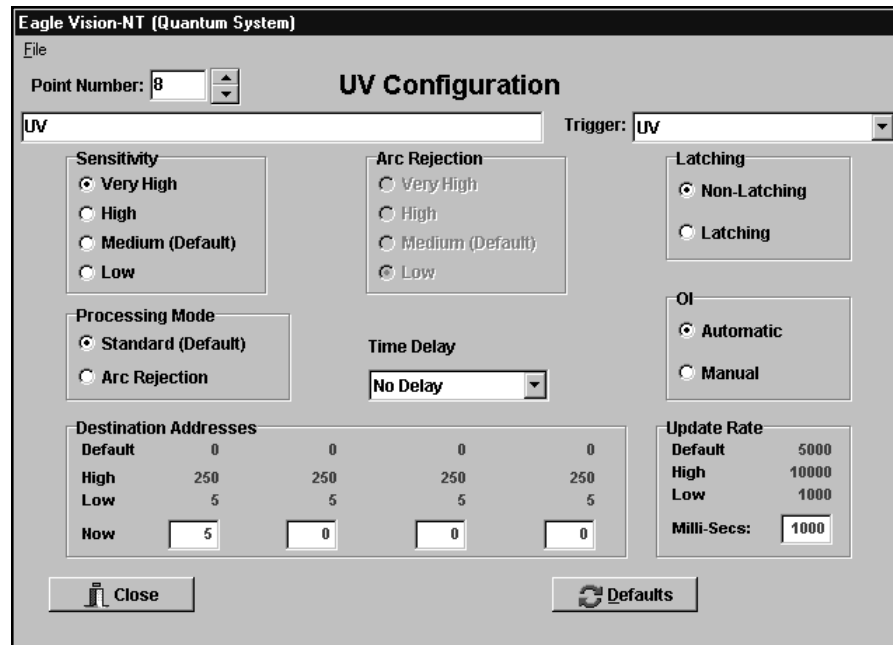

FIGURE V-8
3. Click on the UV Detector button, then click on OK. The UV Configuration screen will be displayed. See Figure V-8.